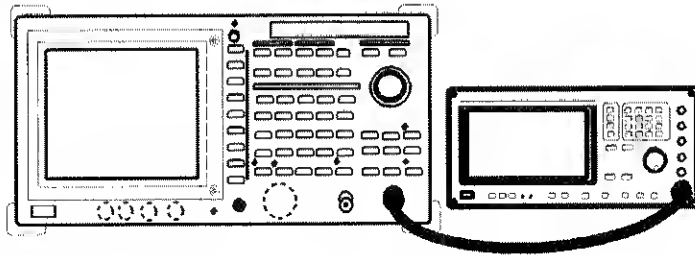

Figure 2-106 Setup for Measuring a Burst Signal
1. Connect the unit as shown in Figure 2-106.